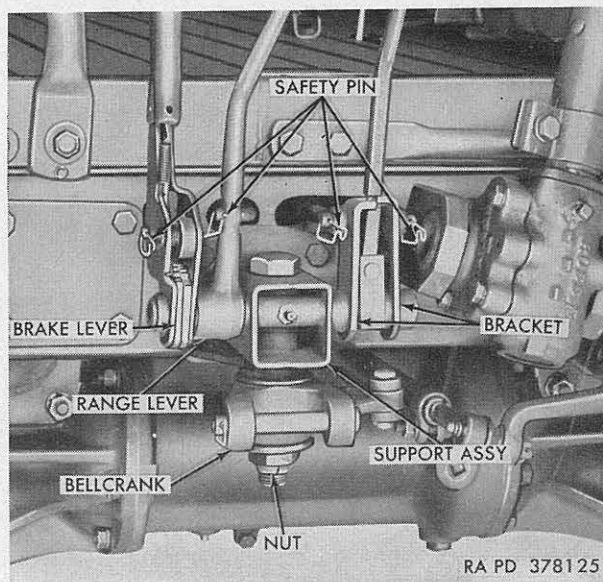

Figure 54. Brake and shift lever support assembly and attached parts mounted on front of platform.
*a. Removal.* Remove three cotter pins (fig. 71) and clevis pins securing rear ends of transmission and transfer control rod rigid linkages to transmission. Remove safety pin (fig. 54) securing front end of transfer linkage to gear shift range lever and remove linkage from lever. Remove two safety pins from studs in gear shift lever brackets, and pull front ends of transmission control rod rigid linkages from studs. Re-
b. *Installation.* Slide ell shaped end of transfer control rod rigid linkage through hole in front crossmember, hook end into hole in gearshift range lever (fig. 54) and secure with safety pin. Slide eye ends of transmission control rod rigid
- (2) Remove safety pin (fig. 54) and cotter pin securing handbrake control flexible linkage to handbrake lever.
- (3) Remove safety pin from end of transfer control rod rigid linkage and separate rod from gearshift range lever. Remove two safety pins from studs in gearshift lever brackets and remove front ends of transmission control rigid linkages from studs.
- (2) Position front ends of transmission control rigid linkages on studs in gearshift lever brackets (fig. 54) and secure with safety pins. Push end of transfer control rod linkage through hole in gearshift range lever from left and secure with safety pin.
- (3) Position front end of handbrake control flexible linkage in alinement with holes in handbrake lever (fig. 54) and secure with  $\frac{1}{4} \times 1\frac{1}{16}$  clevis pin and safety pin.
- (4) Position tow bar bellcrank (fig. 54) on bolt at bottom of support and secure with plain washer and  $\frac{3}{4}$ -16NF locknut, tightened to a torque of 90 to 110 pound-feet.